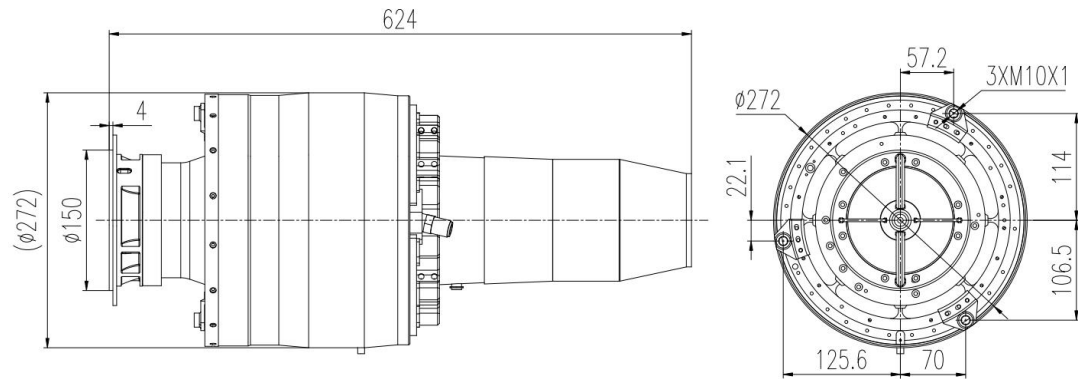

Figure 2 Engine Outline Drawing
- e) Engine Outline Drawing (See Figure 2)